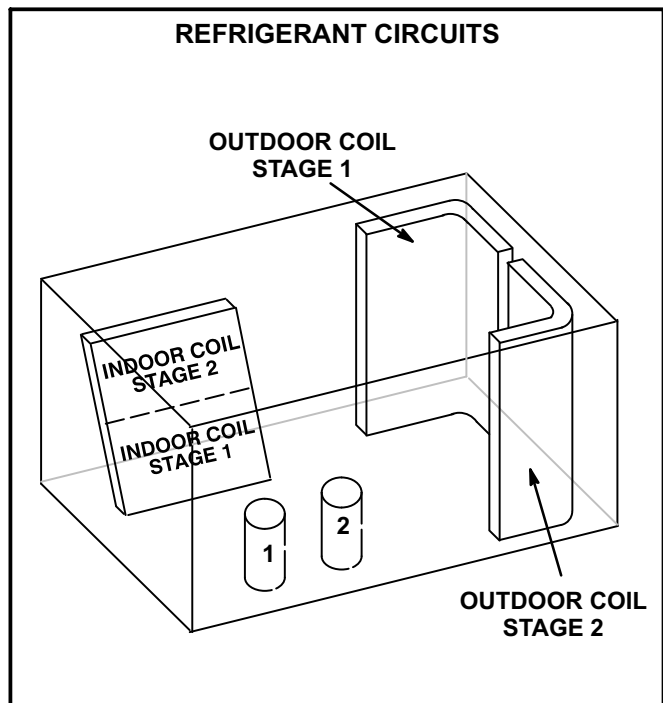

FIGURE 14
- 3- Units contain two refrigerant circuits or systems. See figure 14.